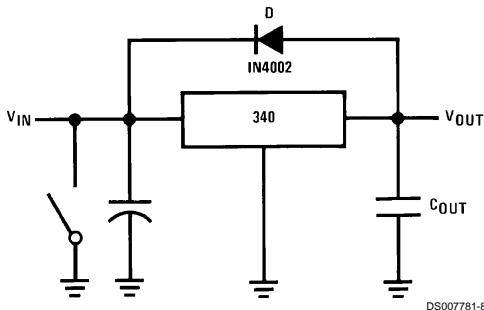

FIGURE 1. Input Short
**Shorting the Regulator Input:** When using large capacitors at the output of these regulators, a protection diode connected input to output (Figure 1) may be required if the input is shorted to ground. Without the protection diode, an input
short will cause the input to rapidly approach ground potential, while the output remains near the initial  $V_{OUT}$  because of the stored charge in the large output capacitor. The capacitor will then discharge through a large internal input to output diode and parasitic transistors. If the energy released by the capacitor is large enough, this diode, low current metal and the regulator will be destroyed. The fast diode in Figure 1 will shunt most of the capacitor's discharge current around the regulator. Generally no protection diode is required for values of output capacitance  $\leq 10 \mu F$ .